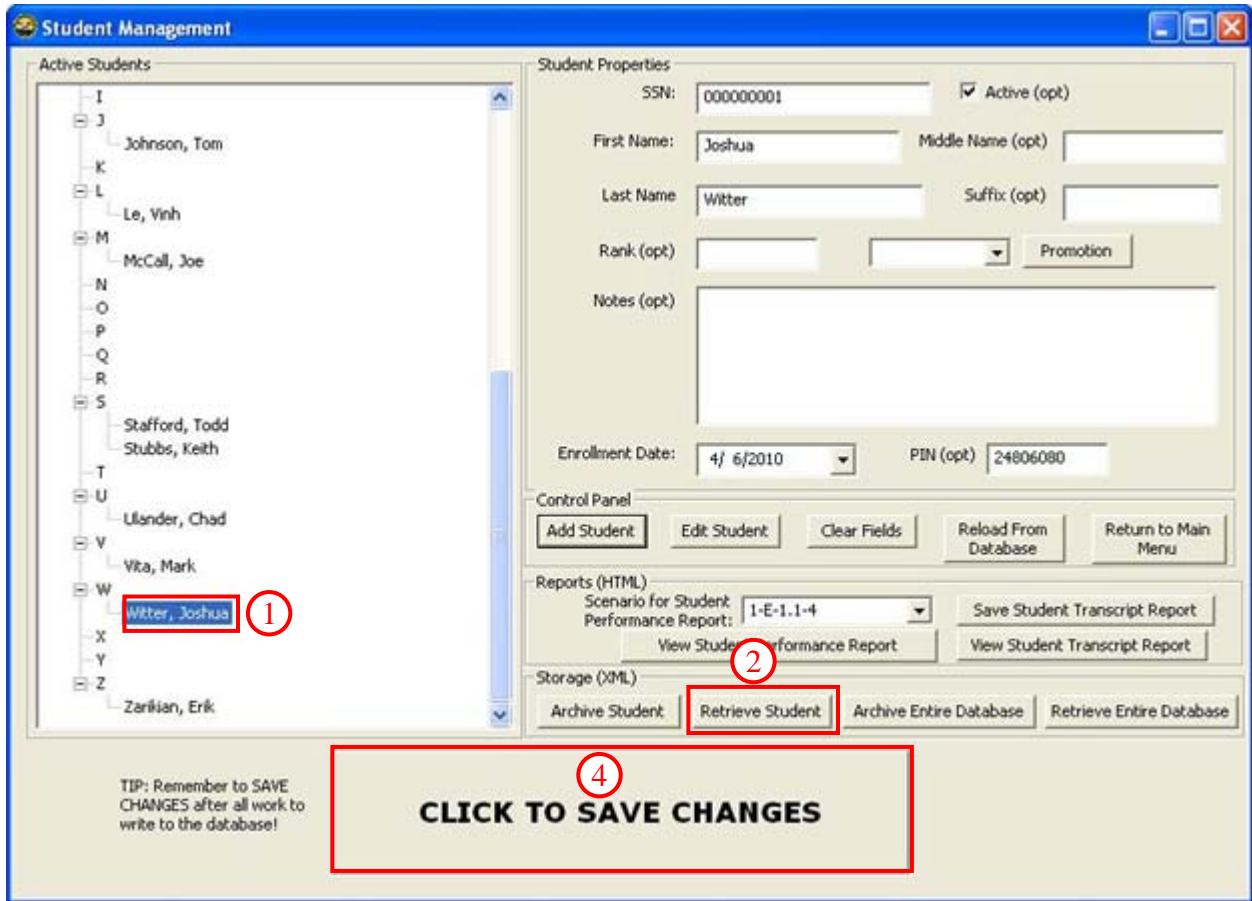

Figure 63. Student Management - Retrieve Student
2. Click the [RETRIEVE STUDENT] button (Figure 63).